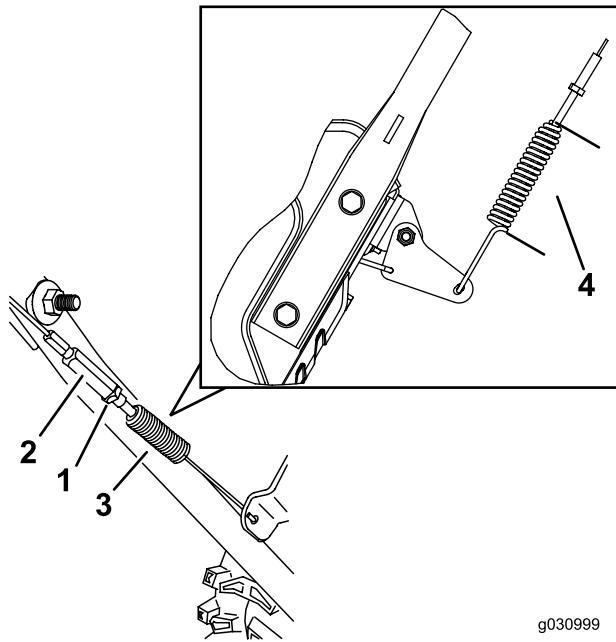

Figure 29
4. Tighten the jam nut (Figure 29), ensuring that there is slight tension on the cable.
3. Loosen or tighten the turnbuckle to adjust the spring length to 5.5 cm (2-3/16 inches) as shown in Figure 29.